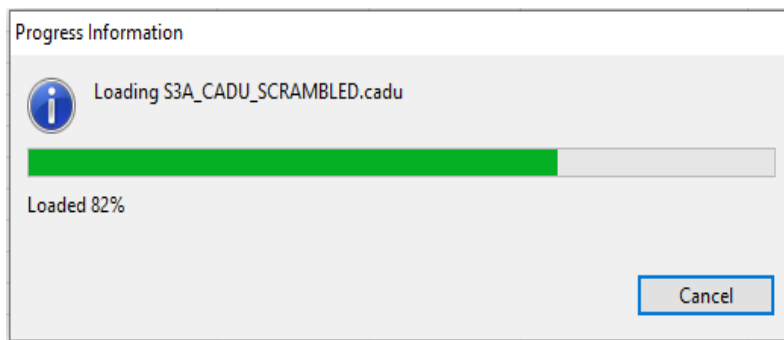

Figure 33: Progress bar when loading file
3. Select the file to open, and finish with OK. After this step, a progress dialog is shown while loading the file (Figure 33), and the file will appear listed in the Product Files view (Figure 34).